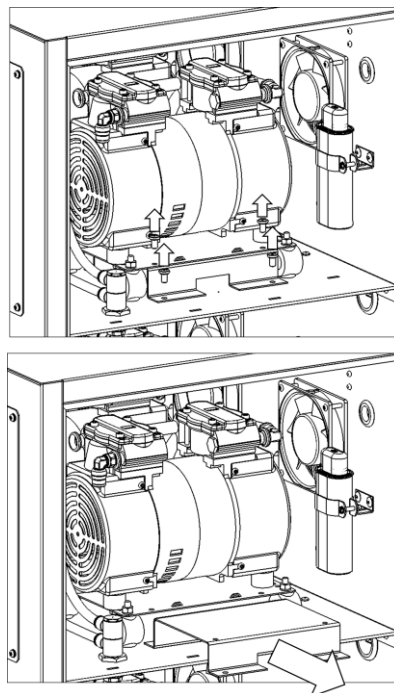

Figure 1: Transit Bracket Removal
2. Remove the four screws with a #3 Pozidrive Screwdriver. See Figure 1.
3. Slide the transit bracket out from under the compressor by pulling it towards you. See Figure 1.